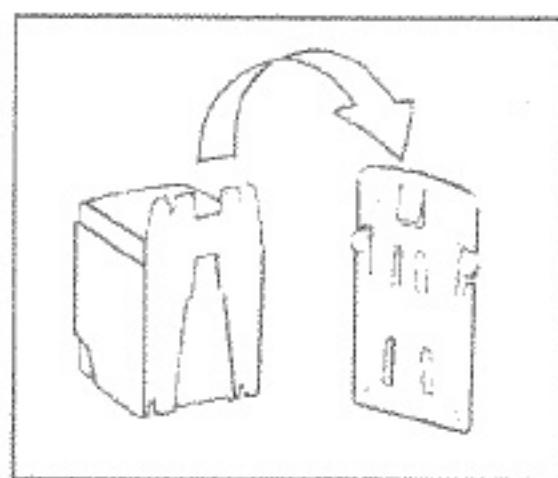

FIGURE 5
4. Once the wall bracket is securely mounted on the wall surface, slide main housing over V groove on the wall bracket (Figure 5).